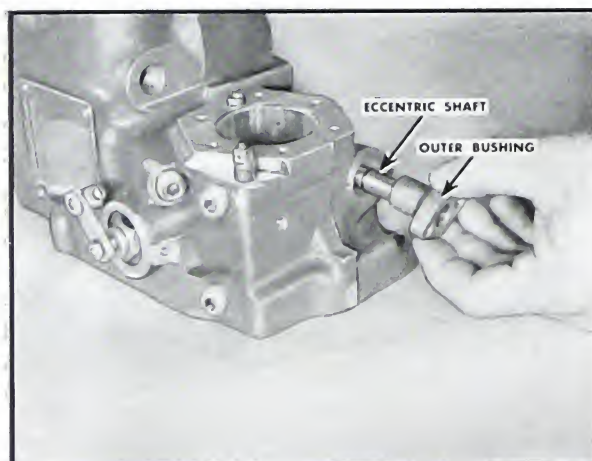

Fig. 5-231. Removing eccentric shaft
3. Unscrew the two socket head screws and remove the outer hand control eccentric bushing. Remove eccentric shaft. Fig. 5-231.
9. Assemble outer eccentric bushing to housing and secure with two No. 8—32 \times 1/2" socket head capscrews and lockwashers. Fig. 5-231.
10. Assemble hand throttle lever to eccentric shaft. (See Page 5-106.) Secure socket head clamping screw. Be sure lever does not bind against outer eccentric bushing. Fig. 5-231.